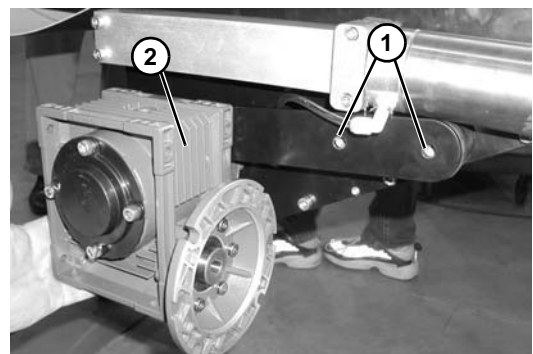

Figure 116
3. Remove screws (**Figure 116, item 1**) and remove gearmotor (**Figure 116, item 2**) (gearhead shown with motor removed for clarity, motor can remain attached to gearhead).